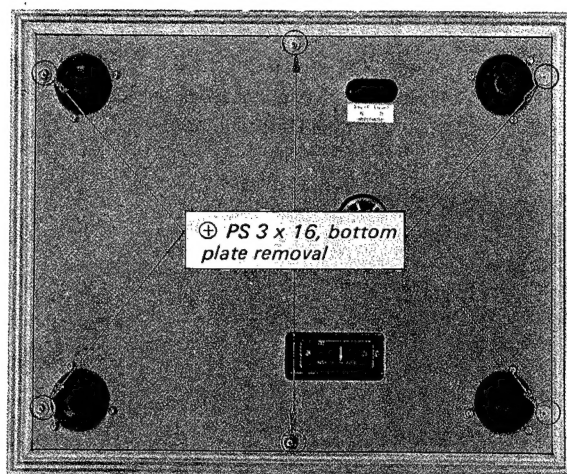

Fig. 2-2. Bottom plate removal
1. Flip the wooden case upside down. Place it on a soft protective pad, and then remove the six screws (⊕ PS 3 x 16) securing the bottom plate to the wooden case as shown in Fig. 2-2. This frees the bottom plate.